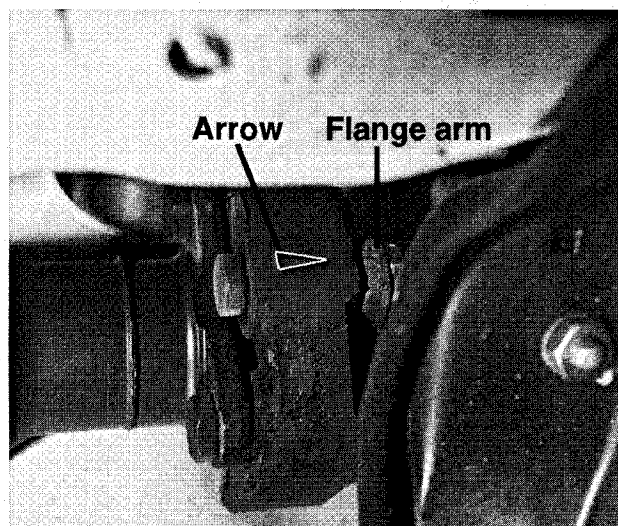

Fig. 7. When attaching flex-disc, molded arrows must point toward flange arms.
3. Install new flex-disc using new self-locking nuts. Molded arrows on coupling should face flange arms. See Fig. 7.